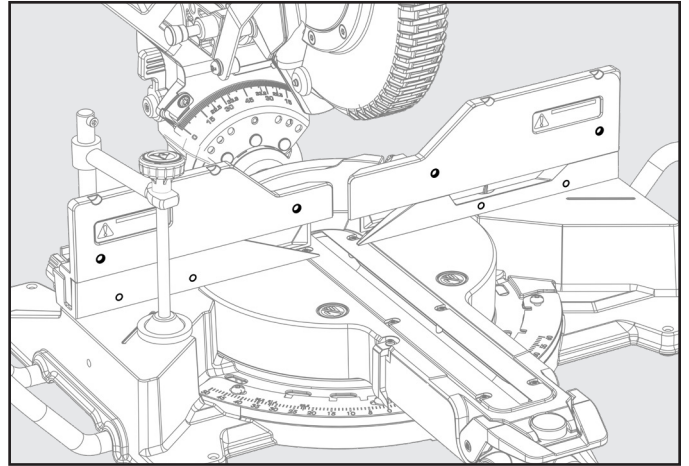

Figure 37
See Figure 37.
1. Place auxiliary fence wood against miter saw fence. See Figure 37. The maximum height for this wood **MUST NOT** exceed 5.5 inch. Check to make sure auxiliary fence does not make contact with saw head, check with saw head in the full DOWN and fully RETRACTED position.